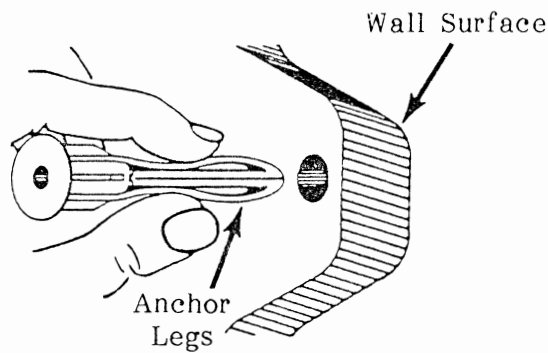

FIGURE 3
**01.21** Press the anchor legs of the togglers together, and insert them into the anchoring holes (Figure 3) until their neck flanges are flush with the mounting surface. If insertion is difficult, tap them lightly with a hammer.